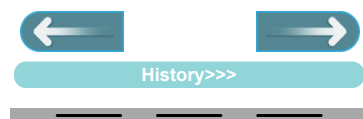

Figure 38. Previous and next Icons
- To view the next two results in the home screen, tap the **NEXT** icon. See Figure 38.
- To view the previous two results in the home screen, tap the **PREVIOUS** icon. See Figure 38.
- To view all the results, tap 'History' as shown in Figure 38.